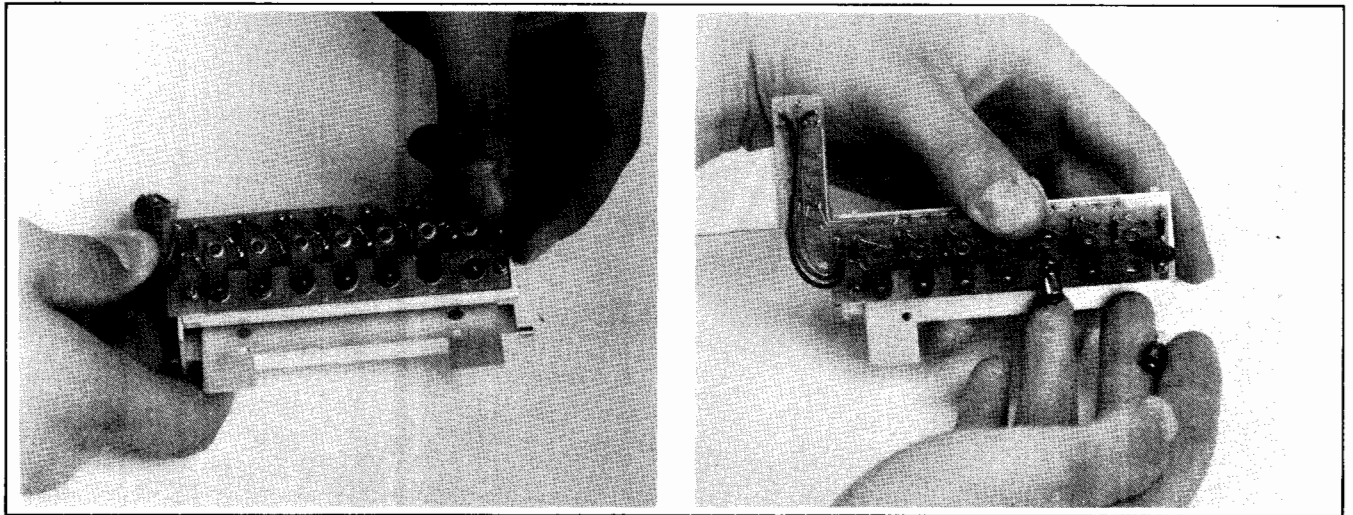

Figure 5-6. Read Head Lamp Replacement
- d. Turn read head right side up. See Figure 5-6. Push tab aside. Lamp drops out. See Figure 5-6.